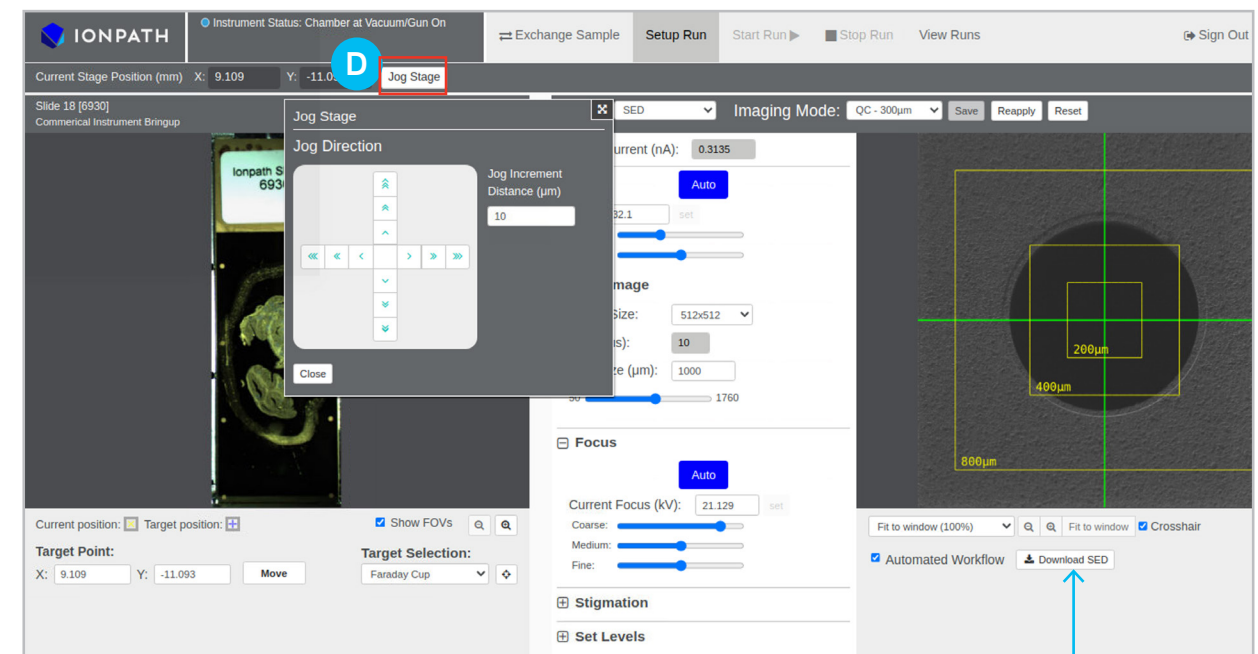

FIGURE 3.2 Faraday cup in SED mode.
5. Click **Jog Stage** (Figure 3.2, D) and use the **Arrows** to center the Faraday Cup if needed.